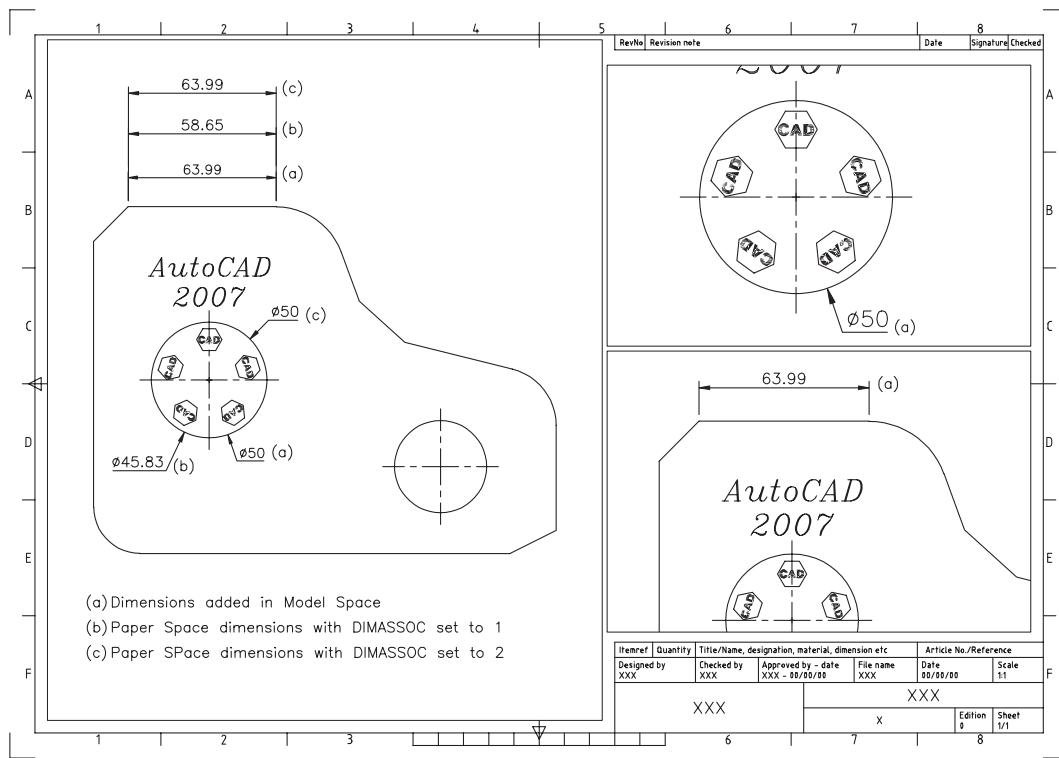

Figure 33.4 Creating a multi-viewport layout using WORKDRG.
- d) Your drawing layout should resemble Figure 33.4 i.e. we have displayed a full size WORKDRG and zoomed in to two different areas of the drawing
- 4 Refer to the Figure 33.4 and diameter dimension the circle and linear dimension as indicated.
b) These dimensions are represented in Figure 33.4(a)
c) The two dimensions are represented in Figure 33.4(b)
- 10 a) Now dimension the same two objects as before, represented in Figure 33.4 (c)